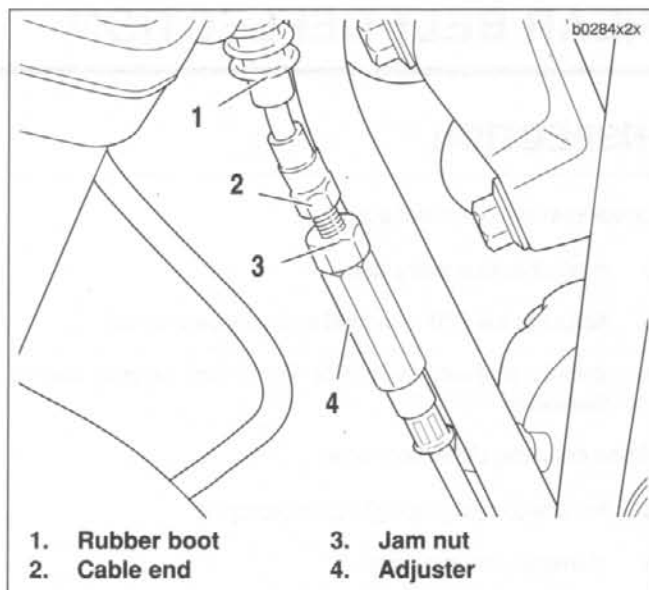
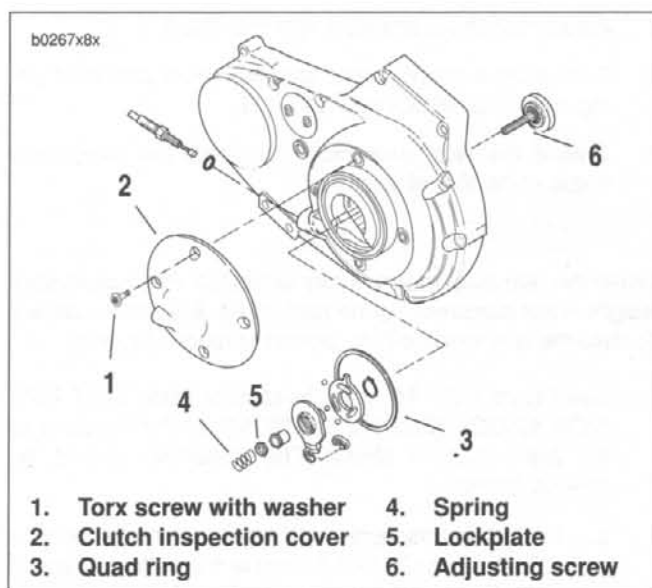

Figure 1-36. Clutch Cable Adjuster Mechanism
Figure 1-37. Clutch Release Mechanism
2. See Figure 1-36. Slide rubber boot (1) upward to expose adjuster mechanism. Loosen jam nut (3) from adjuster (4). Turn adjuster to shorten cable housing until there is a large amount of free play at clutch hand lever.
3. See Figure 1-37. Remove four TORX screws with washers (1) from clutch inspection cover (2). Remove clutch inspection cover from primary cover. Do not damage or dislodge Quad ring (3) from primary cover.
Quad ring removed from primary cover for illustrative purposes only in Figure 1-37.
- b. See Figure 1-36. Set free play by turning adjuster (4).
- c. Tighten jam nut (3) against adjuster (4).
- d. Slide boot (1) over cable adjuster mechanism.
8. See Figure 1-37. Install clutch inspection cover (2) using four TORX screws with washers (1). Tighten in a cross-wise pattern to 7-9 ft-lbs (9.5-12.2 Nm).